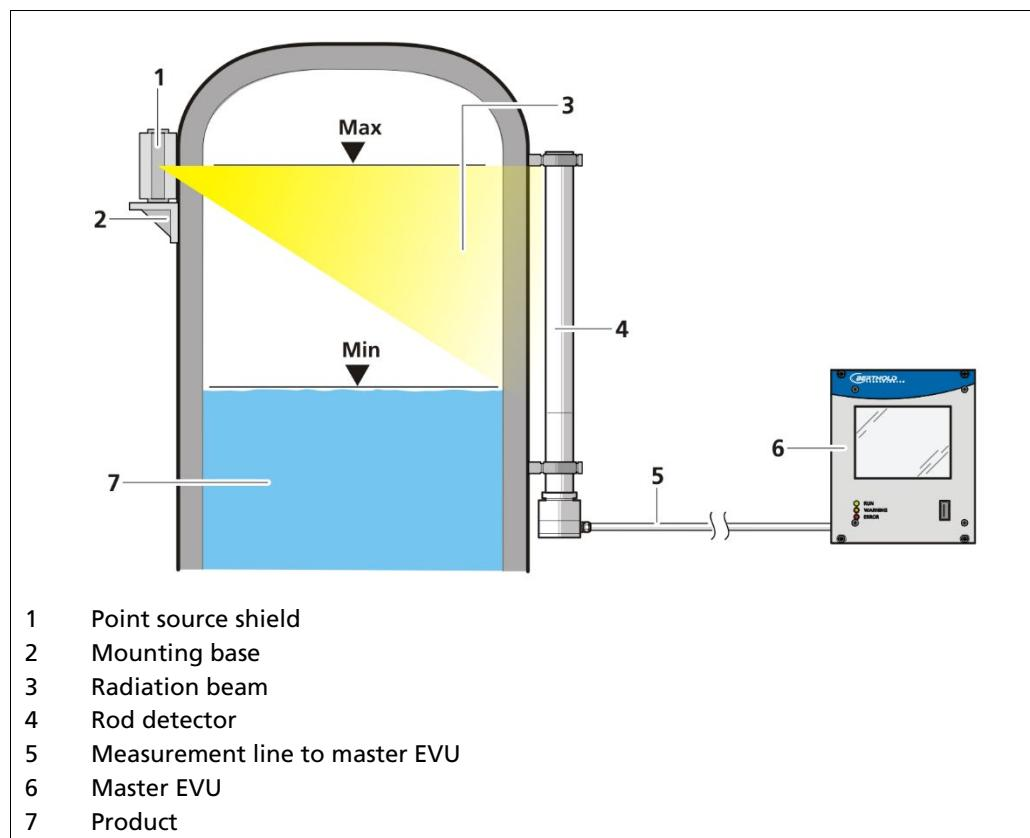

Fig. 1 Example measurement arrangement
These instructions concern the operation of the evaluation unit DuoXpert LB 470 (Fig. 1, item 6). The operation of other system components is part of the independent instructions of the respective system components. The EVUs are standard equipment in switch rooms with 19" subracks or switchboards.
The LEDs (fig.1, items 2-4) below the touch display show the current operating status of the master EVU.